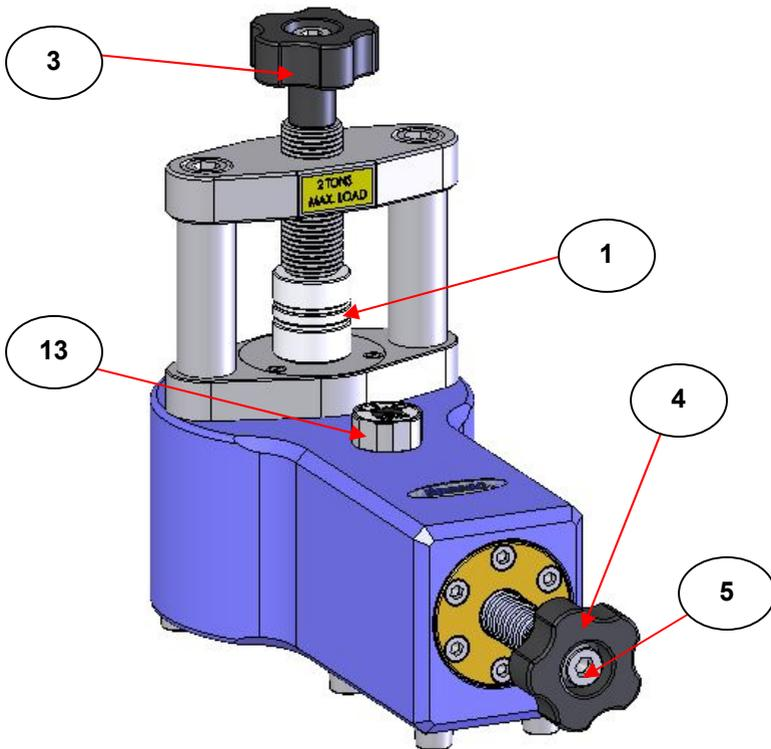

Fig 6. Mini-Pellet Press with 7mm Die Assembly in Position
When the Mini-Pellet Press pressing area has been set to accept the 7mm pellet die assembly (1), place the die assembly carefully and centrally into the press and loosely clamp the die assembly into position by turning the lead screw assembly (3) clockwise. (See Fig 6.)